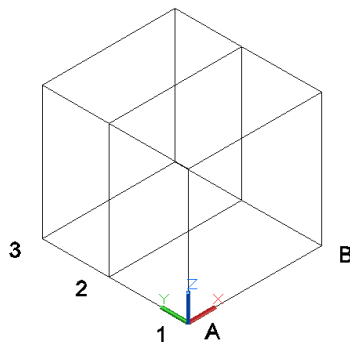

Figure 3-38 Model after creating the grid
- Next, accept default values for other options and choose the **Create** button; the grid is created. Next, change the view orientation to **SW Isometric**, refer to Figure 3-38.